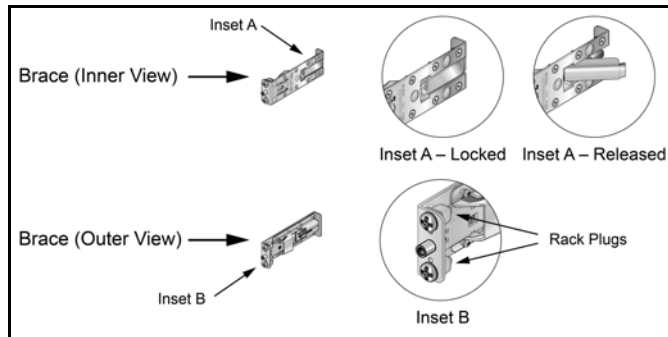

Figure 6: Mounting Ears
Figure 6 displays the mounting ears, which secure the switch top to the rack. The two mounting ears are identical and installed above each shelf. The inner side of each ear includes a latch to the locking mechanism that secures the ear to the rack.
Step 2 Close the front locking mechanism latch (Figure 6).